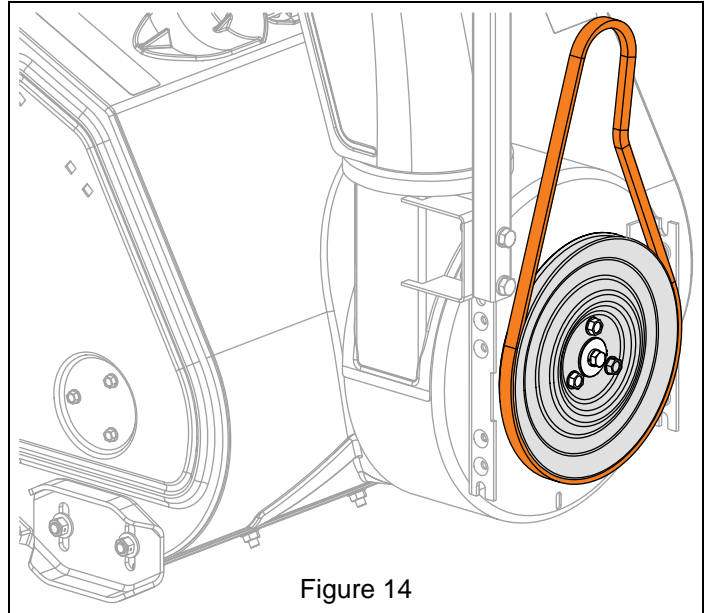

Figure 14
4. Remove attachment drive belt from attachment drive pulley. See Figure 14.